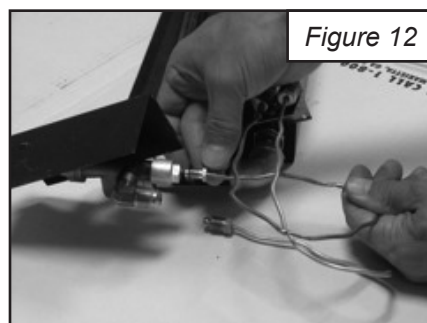

Figure 12
- K. Carefully bend the Thermocouple lead (Part #5) and attach to the back of the control valve. (See Figure 12)